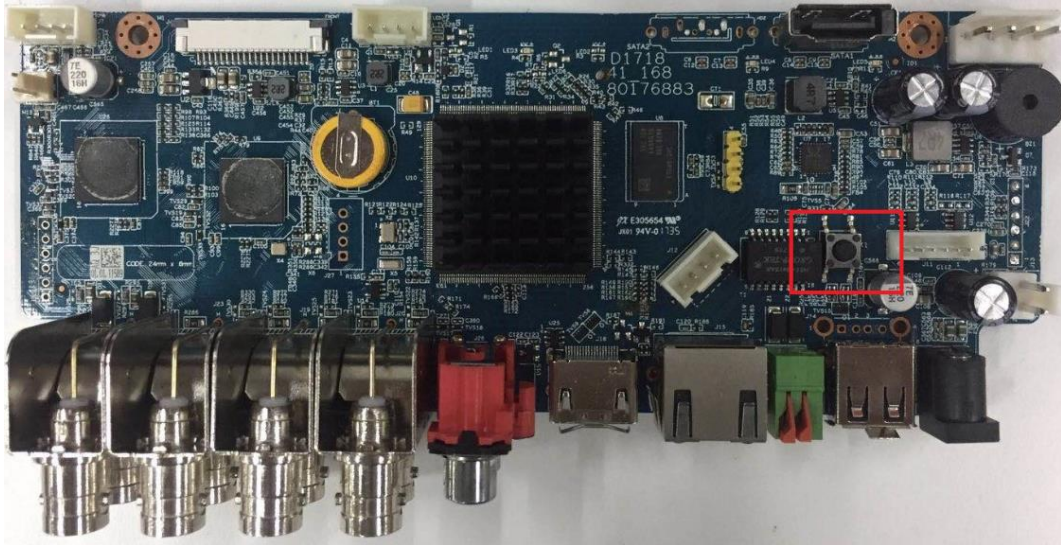

Figure 5-14
**Step 2** Find the reset button on the mainboard, and then press and hold the reset button for 5 seconds to 10 seconds. See Figure 5-14 for the location of the reset button.